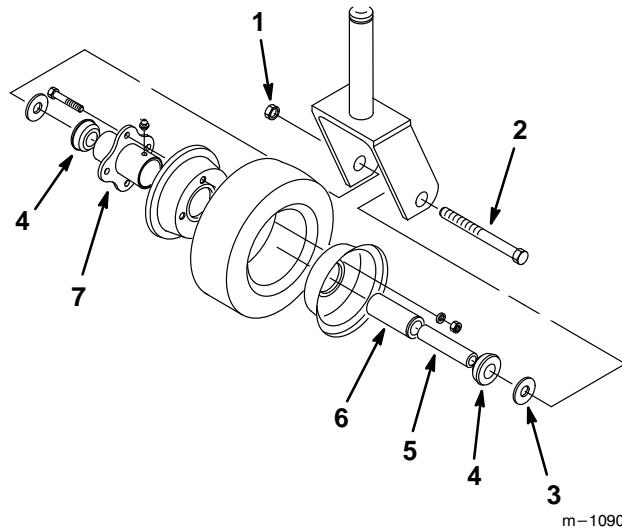

Figure 34
1. Remove the locknut and wheel bolt holding the castor wheel to the castor fork (Fig. 34).
2. Remove one washer and bushing, then pull the spanner bushing and roller bearing out of the wheel hub (Fig. 34).
3. Remove the other washer and bushing from the wheel hub and clean any grease and dirt from the wheel hub (Fig. 34).
4. Inspect the roller bearing, bushings, spanner bushing and inside of the wheel hub for wear. Replace any defective or worn parts (Fig. 34).
5. To assemble, place one (1) bushing into the wheel hub. Grease the roller bearing and spanner bushing and slide them into the wheel hub. Place the second bushing into the wheel hub (Fig. 34).
6. Install the washers on the outsides of the bushings, then install the castor wheel into the castor fork and secure with the wheel bolt and locknut. Tighten the locknut until the spanner bushing bottoms against the inside of the castor forks (Fig. 34).